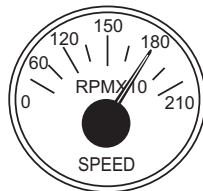

Figure 60. Engine Tachometer Gauge
11. The **tachometer** (Figure 60) will indicate the speed of the engine when the generator is operating. Under normal operating conditions, this gauge should indicate 1,000 rpm when the Engine Speed switch is the LOW position, and 1,800 rpm when the Engine Speed switch is in the HIGH position.